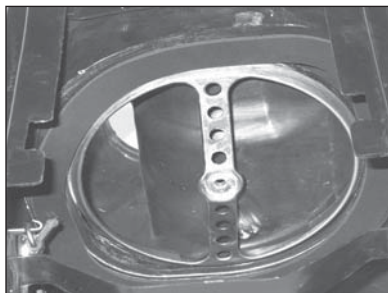

Fig. 1
- 3) Apply the provided gasket into the base of the air box. (Fig. 1)